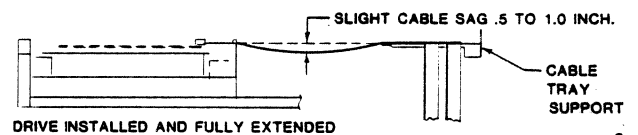

Figure 7-21. Cabinet Cable Routing to PWB
5. Pull disk drive out of cabinet to its fully extended position. Install cables through power supply slots (see Figure 7-21) and onto printed wiring board (PWB). Allow cables to sag 1/2 to 1 inch when routing cables to PWB. Install controller ground cable to E1 on disk drive.